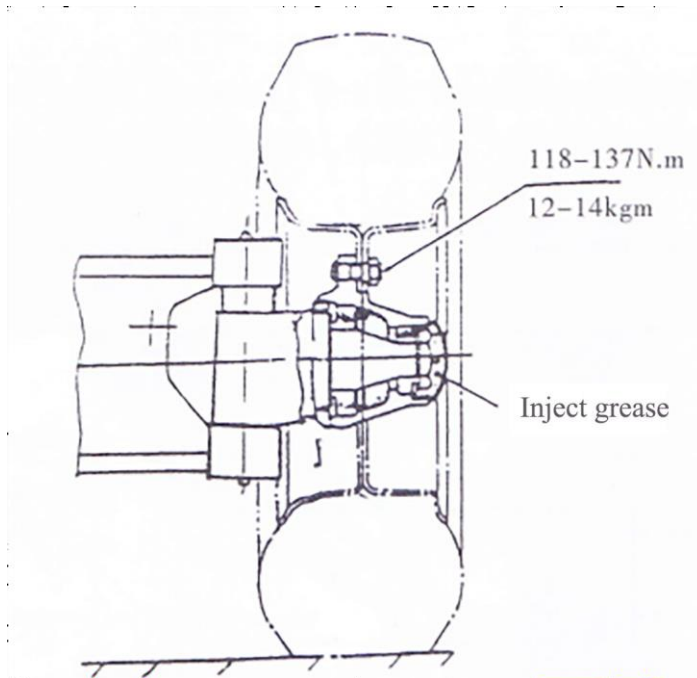

Fig. 3-5 Adding Lubricating Grease and Pre-tightening Load Adjustment
- (1) As shown in Fig. 3-5, apply grease to the inner cavity of the hub, inner and outer bearings and hub cover, and apply some grease to the lip of the oil seal;
- (2) Fix the outer bearing ring on the hub before installing the hub on the steering knuckle shaft;
- (3) Install the flat washer and tighten the castle nut with a torque of 206-235N.m (21-24kgm); loosen the castle nut, and then tighten it with a torque of 9.8N.m (1kgm);
- (4) Gently knock the hub with a wooden hammer and turn the hub for 3-4 turns to ensure that the hub is not loose;
- (5) Tighten the slotted nut so that the slot is aligned with the cotter pin hole on the steering knuckle;